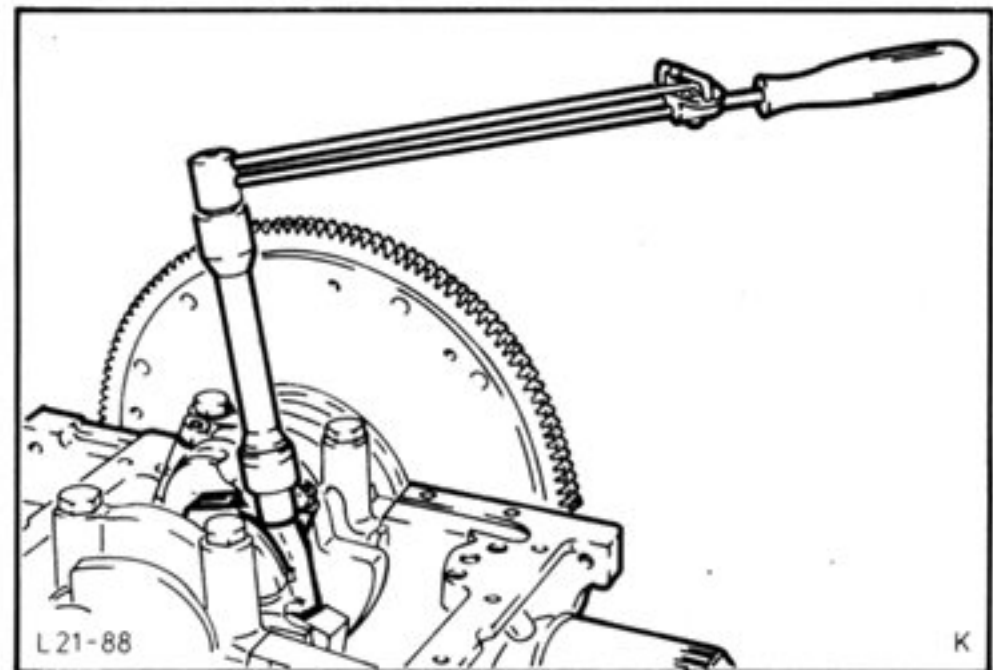

Fig.63. Torque connecting rod bolts as specified in Technical Data.
55. Fit big end bearing cap complete with oiled bearing shell. Torque connecting rod bolts as specified in Technical Data, Fig.63.